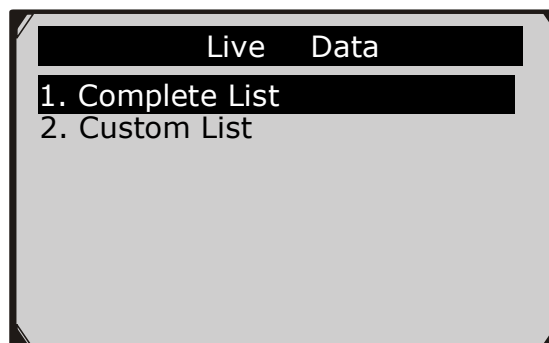

Figure 6.11
- 1) To view a complete set of data, use the **UP/DOWN** scroll button to select **Complete List** from **Live Data** menu and press the **OK** button. (Figure 6.11)
- 1) To view customized PID data, use the **UP/DOWN** scroll button to select **Custom List** from **Live Data** menu and press the **OK** button. (Figure 6.11)